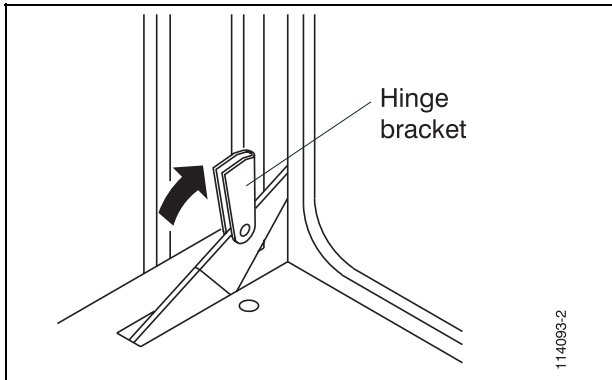

Figure 16.
3. Lift up the hinge bracket on each hinge as shown in Figure 16.